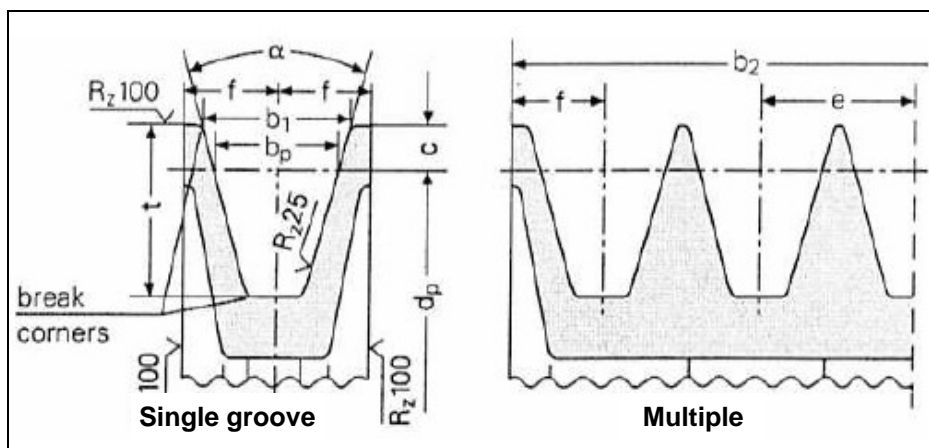

fig. 8
- Use pulleys with v-belts with the size of the groove required/recommended by the manufacturer of belt used. In the absence of directions, follow fig.8 and the table in fig.9.